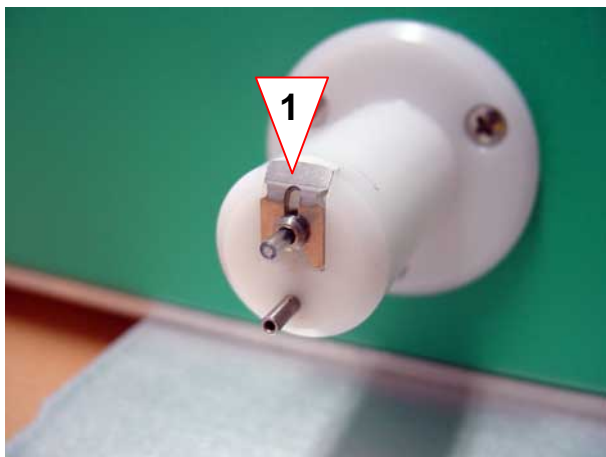

Fig. 4-8 Barex tube security clamp
17. Remove the Barex tube security clamp from the docking part by pressing it upwards (see Fig. 4-8, 1).